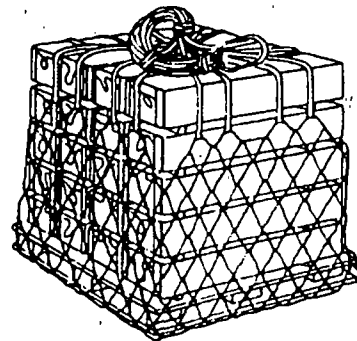

Figure 7-12. Liftings Legs Coiled on Top of Load
Step 9 - Coil the lifting legs on top of the load. The net is now ready for hookup to the helicopter (Figure 7-12).